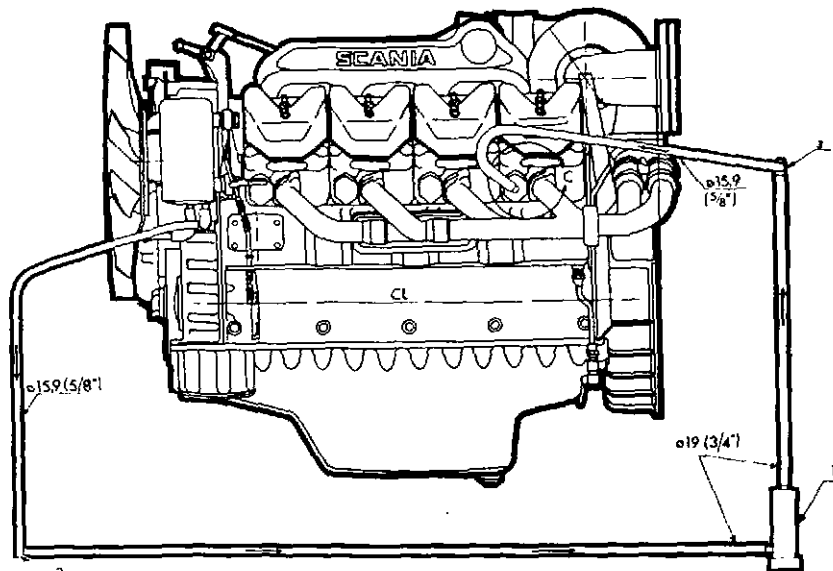

Fig. 4
- 1. Part magnification of cover C fig. 4